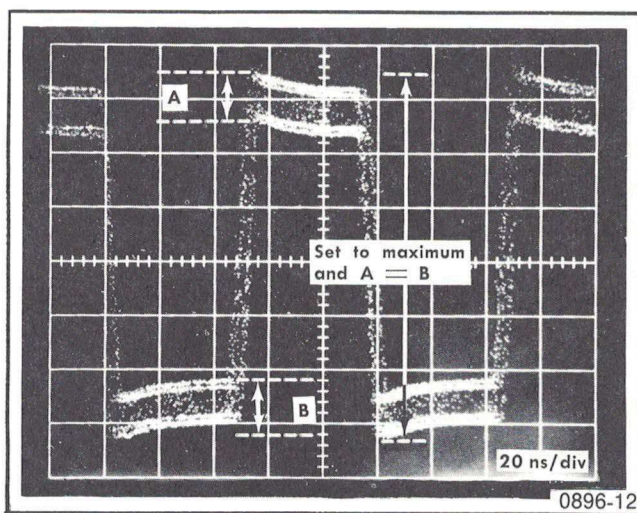

Fig. 4-5. Fine adjustment of Avalanche Volts and Snap-Off Current.
g. Set the sampling sweep unit to Int. Trig. and the sweep rate to 20 ns/div and obtain a double triggered display. The display may show greater than unity loop gain as a double trace. See Fig. 4-5.